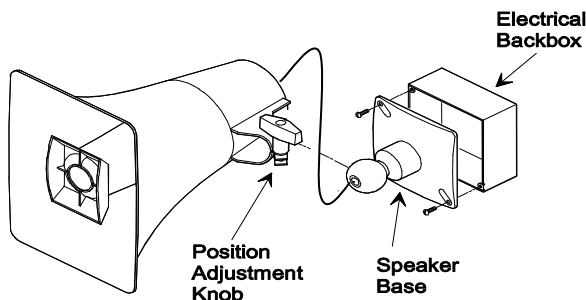

Figure 2. Mounting to an Electrical Backbox
- The base has holes punched for a double-gang square box, but by punching out additional knockout holes, the base can be mounted to a single-gang or octagon box See Figure 2.